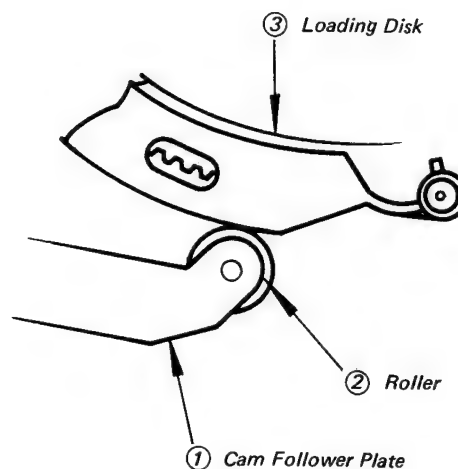

Fig. 5-36 Loading Disk Turning for Removal of Band Brake
#### 10-3. Replacing the Supply Reel Table (Figs. 5-36 –39)
2. Turn the loading drive assembly from the loading start position by hand until the roller ② rides fully on the cam way on the loading disk ③ (see Fig. 5-36).